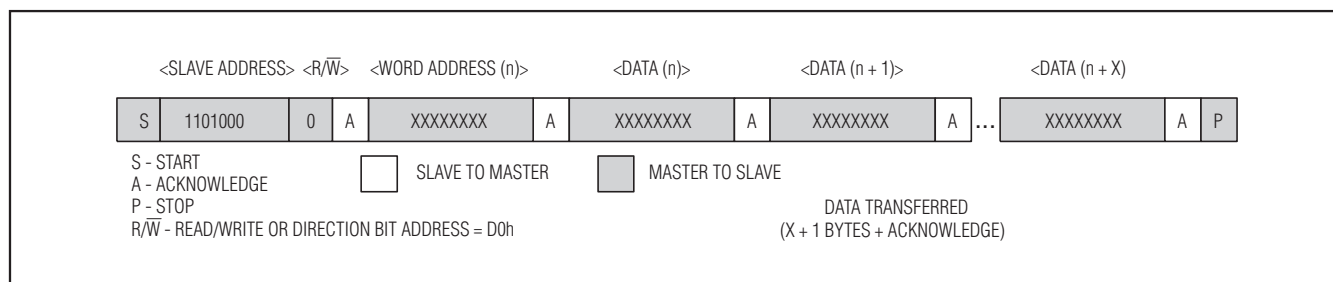

Figure 3. Data Write—RTC Slave Receiver Mode
1) Slave receiver mode (DS32B35/DS32C35 write mode): Serial data and clock are received through SDA and SCL. After each byte is received an acknowledge bit is transmitted. START and STOP conditions are recognized as the beginning and end of a serial transfer. Address recognition is performed by hardware after reception of the slave address and direction bit (see Figures 3, 5, and 7). The slave address byte is the first byte received after the master generates the START condition. The slave address byte contains one of the 7-bit device addresses. The slave address is 1101000 for the RTC. For the DS32B35 FRAM, the first four bits are 1010, and the next three bits select one of eight blocks of data (see Table 2). For the DS32C35 FRAM, the first seven bits are 1010000. Each slave address is followed by the direction bit (R/W), which is zero for a write. After receiving and decoding the slave address byte, the device outputs an acknowledge on the SDA line. After the device acknowledges the slave address and write bit, the master transmits a register address to the device. For the DS32C35, the master transmits two bytes for the register address information. This sets the register pointer on the device. After setting the register address, the master then transmits zero or more bytes of data with the device acknowledging each byte received. The master generates a STOP condition to terminate the data write.